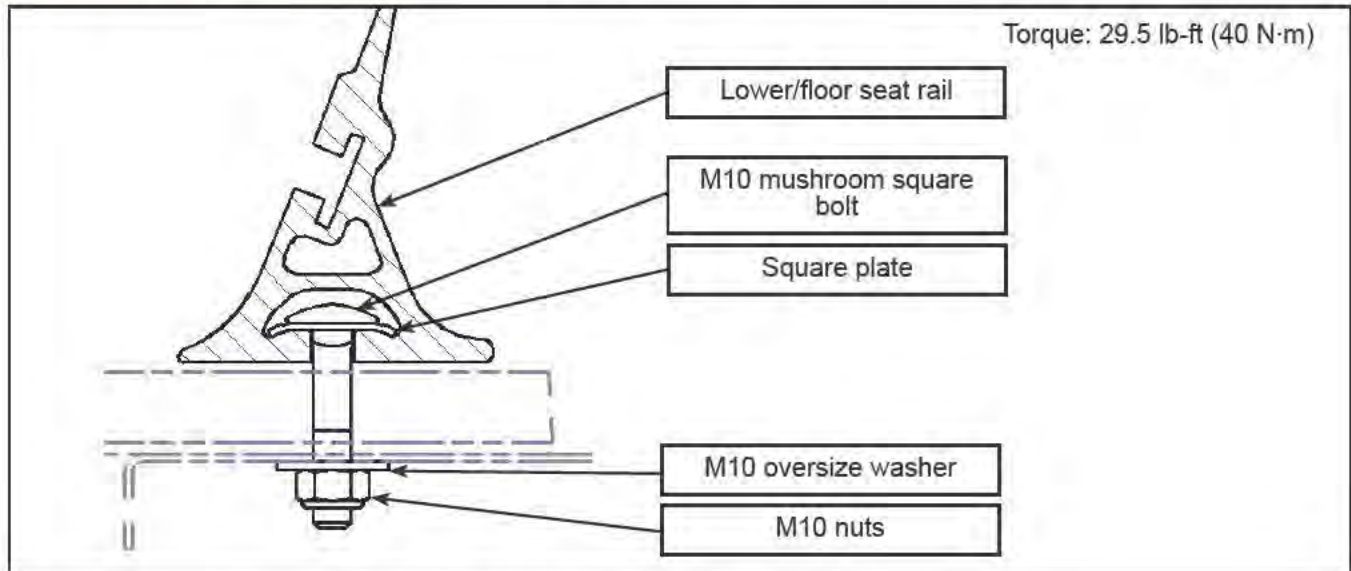

Figure 12 - Lower/Floor Seat Rail
- Torque the nuts to the torque value show in Figure 12 and apply torque seal on nuts.